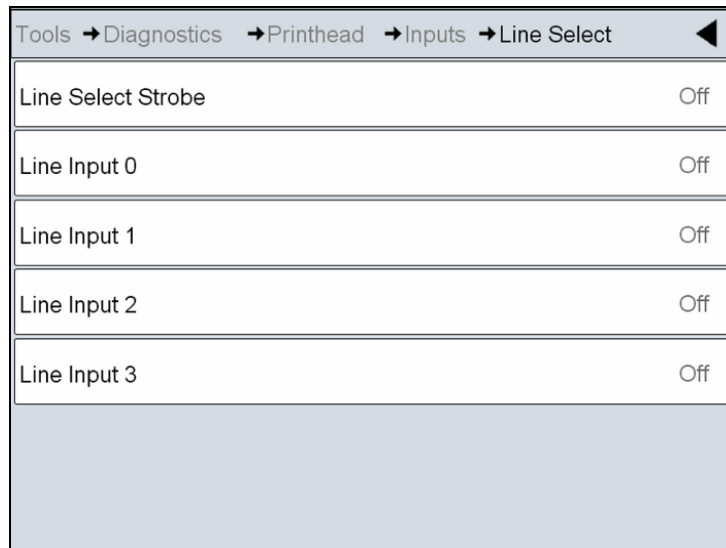

Figure 4-13: Input Line Select Page
- Line Select: If the *Line Select* is enabled on the controller, the user can assign a job to the required line. Line Select allows the user to view the current status of the inputs being used for the *Line Select* (see Figure 4-13). For more information, refer “Line Select Mode” on page 6-23.